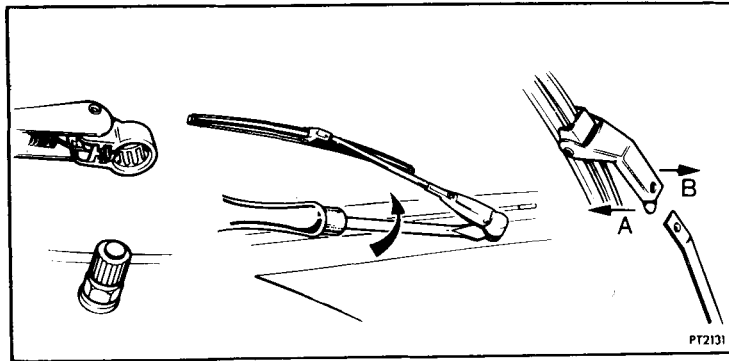

Fig. 1
Lift the wiper arm and blade from the screen so that it falls into its service position. Simultaneously lift clip (A), tilt cage (B), Fig. 1 and gently pull the wiper blade from the arm.
Position a screwdriver between the nut and boss and impart a twisting action, Fig. 1. The clip will lift from the spindle groove and the assembly may then be removed by hand.